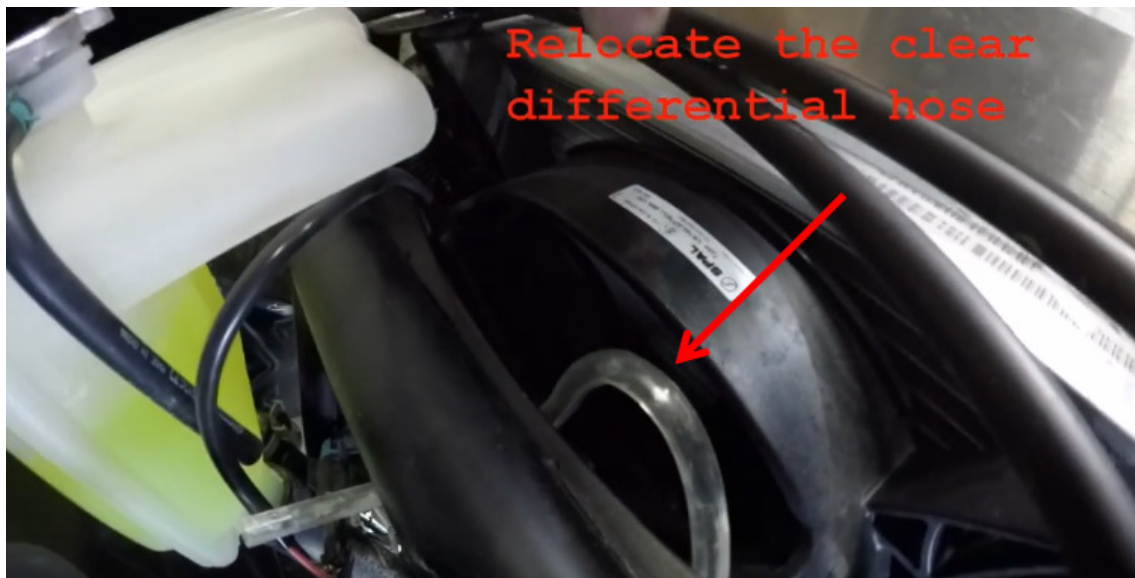

Figure 2
- 3) Loosen the clear differential breather line and push the extra line down toward the differential, as shown in Figure 2, to allow the hose to be moved around later in the install.